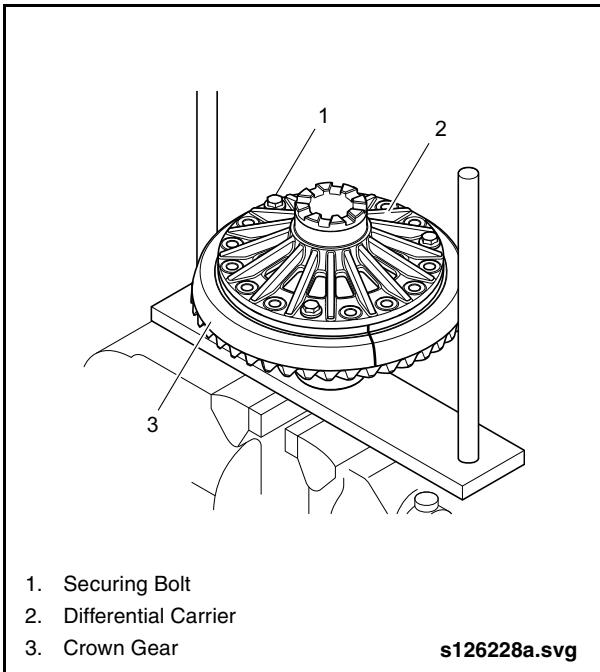

Fig. 2-59: Marking Crown Gear
10. Mark the crown gear in relation to differential housing and cover of differential housing. See “Fig. 2-59: Marking Crown Gear” on page 53.